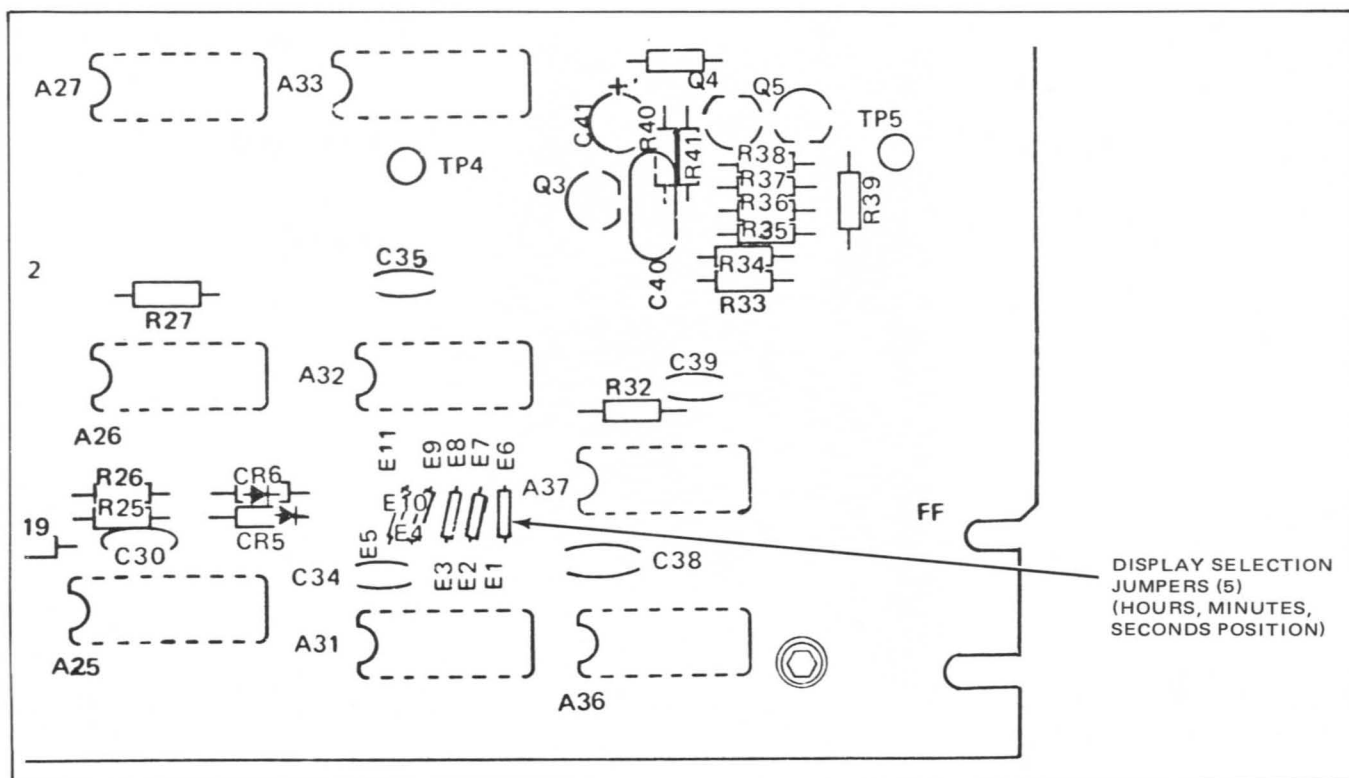

Figure 2-24. Tape Timer Display Selection Jumpers, Transport Control PWA No. 7
2. Remove existing jumpers and install jumpers between the following terminals (Figure 2-24) and solder in place.